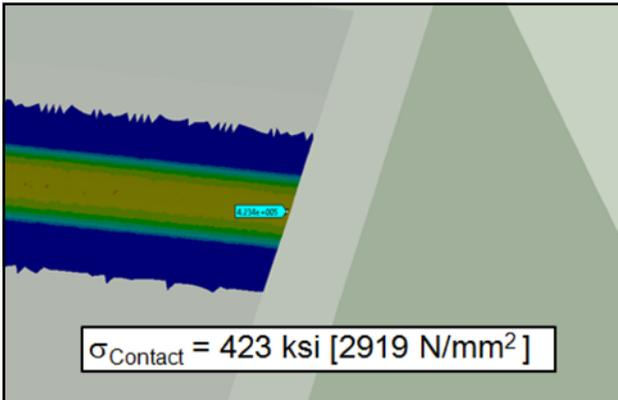

Figure 10 Storm holding contact stress.
- Figures 10, 14 — contact stress